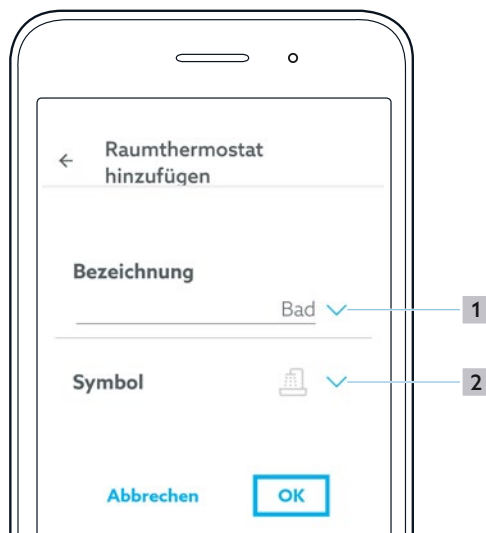

Fig. 13: ClimaCon F app - Start screen
By tapping the arrow (position 1 in Fig. 13 on page 14), you have the possibility to make the appropriate selection from a given list.
- 6 Select a suitable symbol from the list (position 2 in Fig. 13 on page 14).